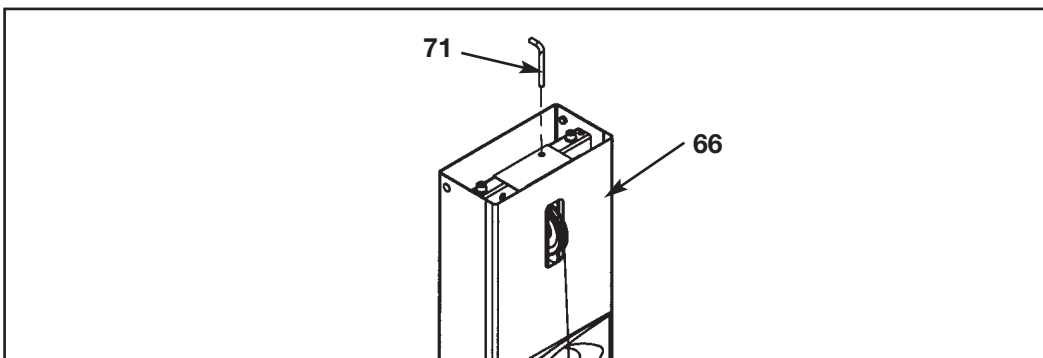

Figure 22
- J. Secure back cover (#66) using weight selector pin (#71). See Figure 22.